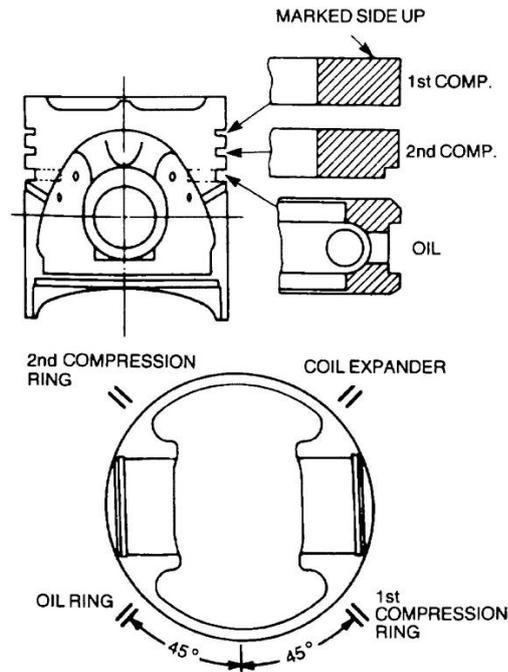

Figure 47 Installing the Piston Rings
- u. Once the piston rings are correctly sized, install the rings onto each piston with the aid of a piston ring installer. Ensure that the first and second compression rings are installed with the face marked NPR or TOP uppermost, and the ring gaps positioned as shown (Figure 47).